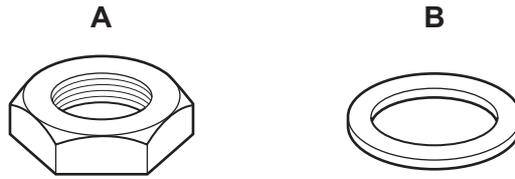

Fig. 4
- 6 Name the **two** items shown in Fig.4.